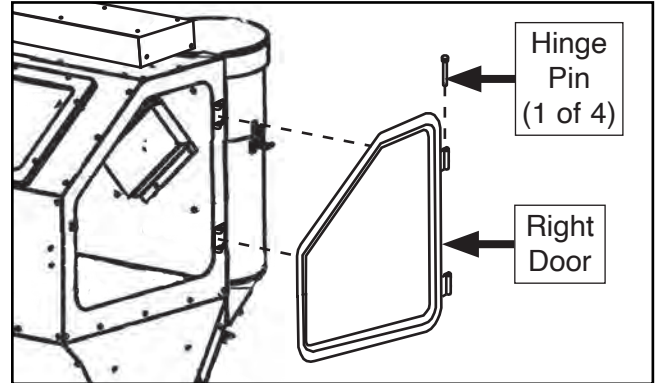

Figure 15. Installing side doors on cabinet.
20. Line up welded hinges on side doors with cabinet hinges, then secure doors with (4) door hinge pins (see **Figure 15**).